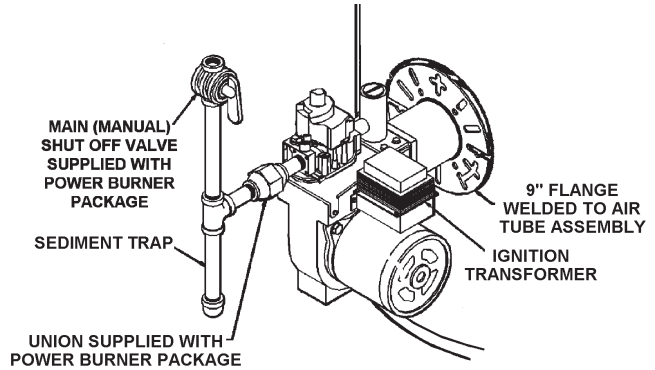

FIGURE 20.
To trap any dirt or foreign material in the gas supply line, a sediment trap must be incorporated in the piping (see Figure 20). The sediment trap must be readily accessible and not subject to freezing conditions. Install in accordance with recommendations of serving gas suppliers. Refer to the latest version of the National Fuel Gas Code.
- For test pressures exceeding 1/2 psi (3.45 kPa) disconnect the water heater and its Main Gas Shutoff Valve from the gas supply piping system during testing, see Figure 20. The gas supply line must be capped when disconnected from the water heater.